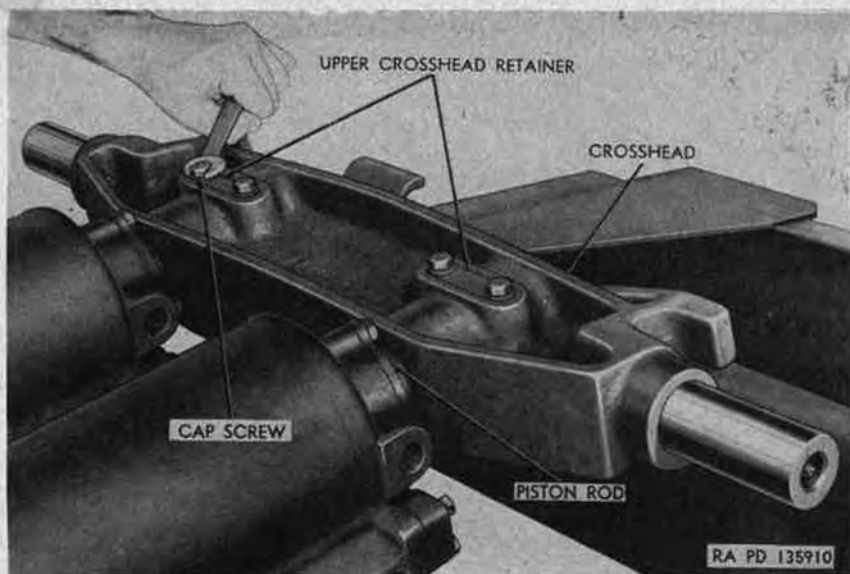

Figure 327. Removing crosshead from hoist cylinder piston rods M51.
- (1) Remove dump body (par. 308).
- (2) Remove four cap screws (fig. 327) and lockwashers securing four crosshead retainers and hoist cylinder piston rods to crosshead. Remove retainers from crosshead, and remove crosshead from piston rods.
- (4) Position crosshead (fig. 327) on hoist cylinder piston rods, insert four crosshead retainers in crosshead, two at each piston rod, and install two cap screws with lockwashers through each upper retainer into lower retainer. Tighten cap screws.
- (5) Install dump body (par. 308).